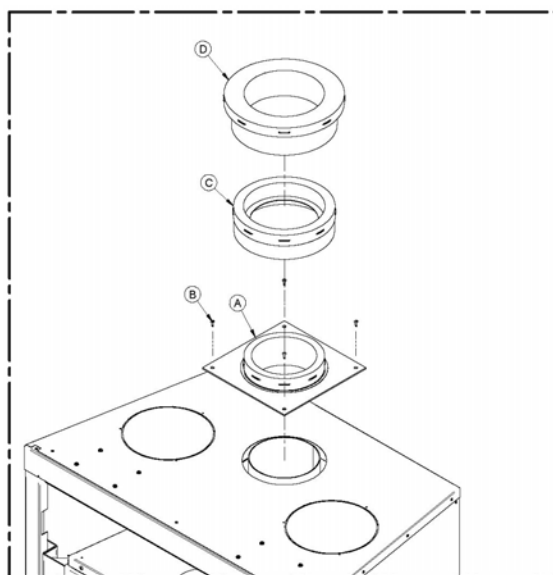

Figure 42
*This fireplace may be installed with a 7-inch chimney of the same type as the ones listed in the above table, provided that a 6" to 7" insulated increaser (see figure 42, parts C and D), supplied by the chimney manufacturer, is installed for the transition between the 6-inch anchor plate(see figure 42 part A) wich can be secured with screws (see figure 42 part B) and the 7-inch flue. For Security Chimneys, the part number is 6AW7.